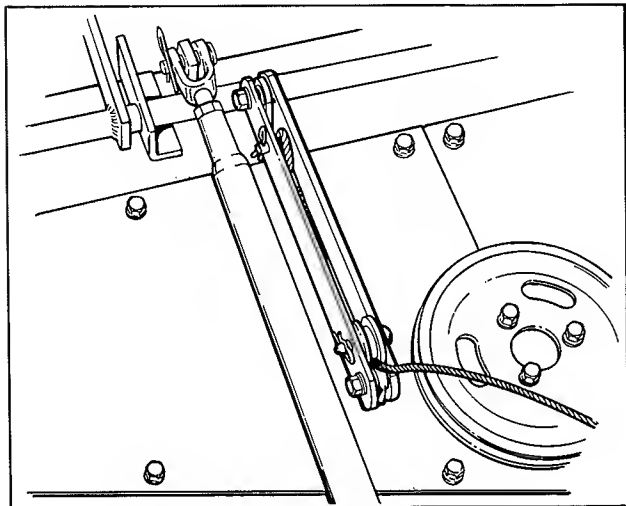

Figure 4. Attaching Bracket
9. Repeat step 8 to attach right lift cable to mower. If tractor has extra long right lift cable, brackets (see figure 4) supplied with lift cable must be attached to eyebolt and bracket on mower with capscrews and hex nuts. In this case, attach loop on end of cable to brackets near rear of mower. Use pin and spring clip supplied with mower. Then remove pin and spring clip that holds spacer to special brackets and reinstall these items with lift cable running under spacer.